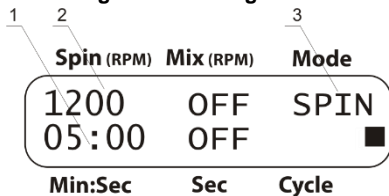

Figure 5. Centrifugation
5.11.1 Select the centrifugation mode (indication **SPIN** of **Mode** parameter, fig. 5/3).
5.11.2 Set the required centrifugation speed, from 300 to 1500 rpm (increment 100 rpm, fig. 5/2).
5.11.3 Set the required centrifugation time, from 1 s to 30 min (increment 1 s, after 1 min - 1 min, fig. 5/1).